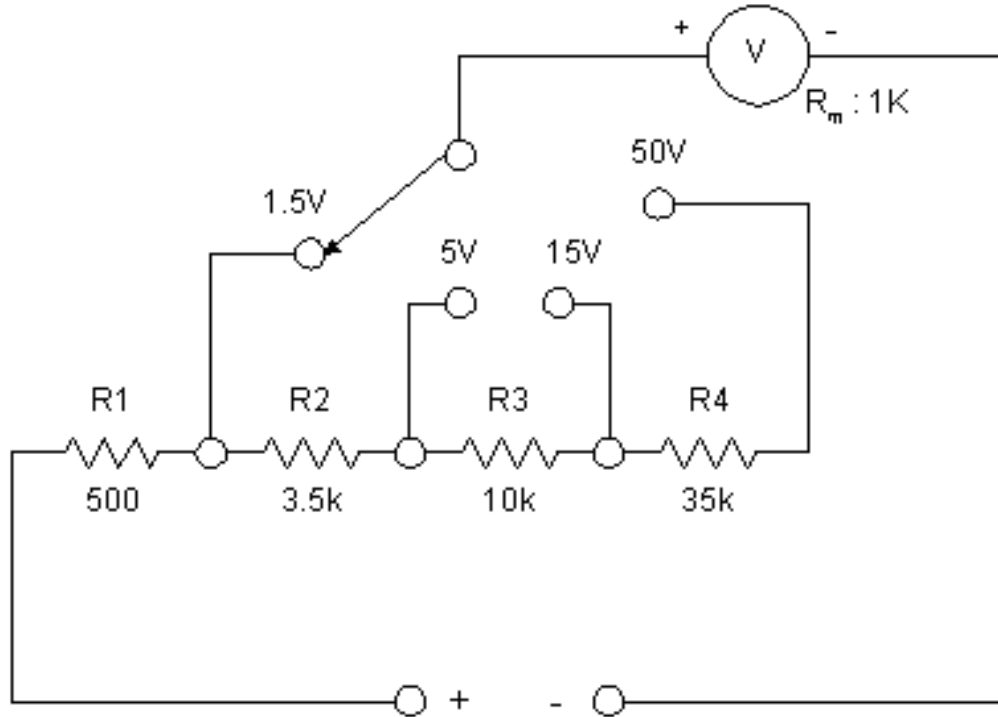

Figure 1-3 Multi-range voltage meter
2. Measure the current when you accept the 1V/ 3V/ 10V/ 12V input voltage toward each range according to table 1-2 using the circuit in Figure 1-3 and enter it in table 1-2.